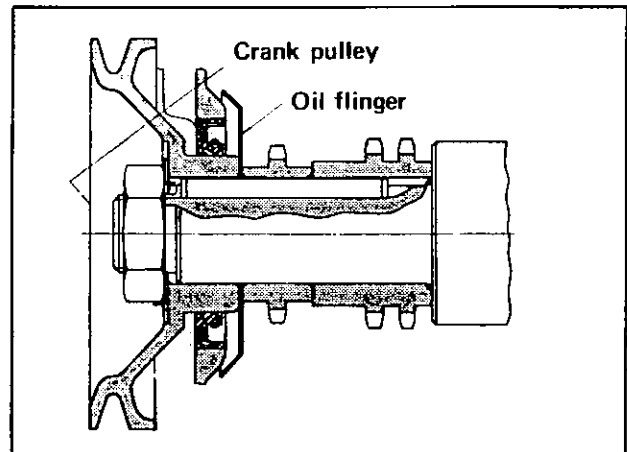

Fig. EM-77 Installation of oil flinger
15. Install the oil flinger in the direction shown in Figure EM-77.